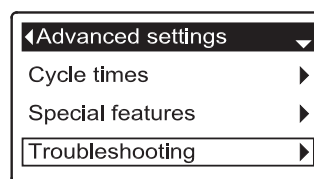

FIG. 146
1. From any of the rolling status screens, press the SELECT (O) button to display the **Main menu**.
3. Press the SELECT (O) button to display the Advanced settings menu (See Figure 146).